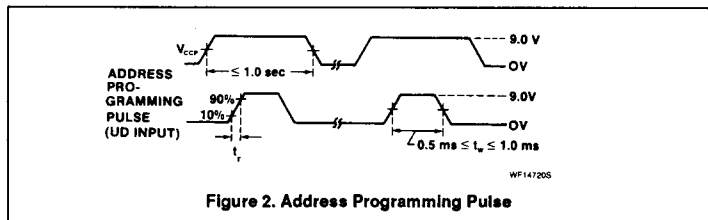

Figure 2. Address Programming Pulse
- Step 3: After  $V_{CC}$  has stabilized, apply a single programming pulse (Figure 2) to the user—bus bit that corresponds to the desired high—level IV address bit. The I/O port is programmed from the user bus (UD0—UD7) for addressing from the Microcontroller bus (IV0—IV7).